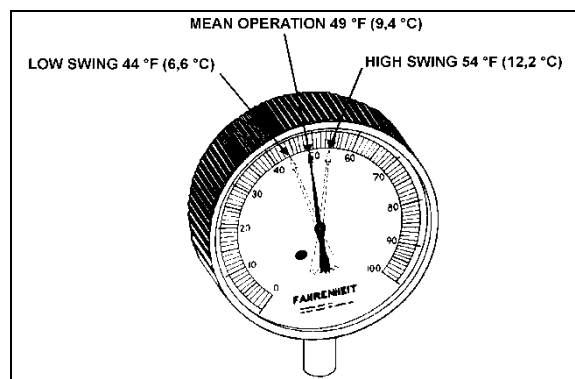

FIGURE 56: HIGH & LOW SWING TEMPERATURE AT REMOTE BULB 22047
6. Check approximately 5 readings of pressure at 2-minute intervals and convert to temperature using the vapor-pressure table. Likewise check the temperature reading at the remote bulb at the same 2-minute intervals and record the low and high swing readings of the needle (Figure 56).